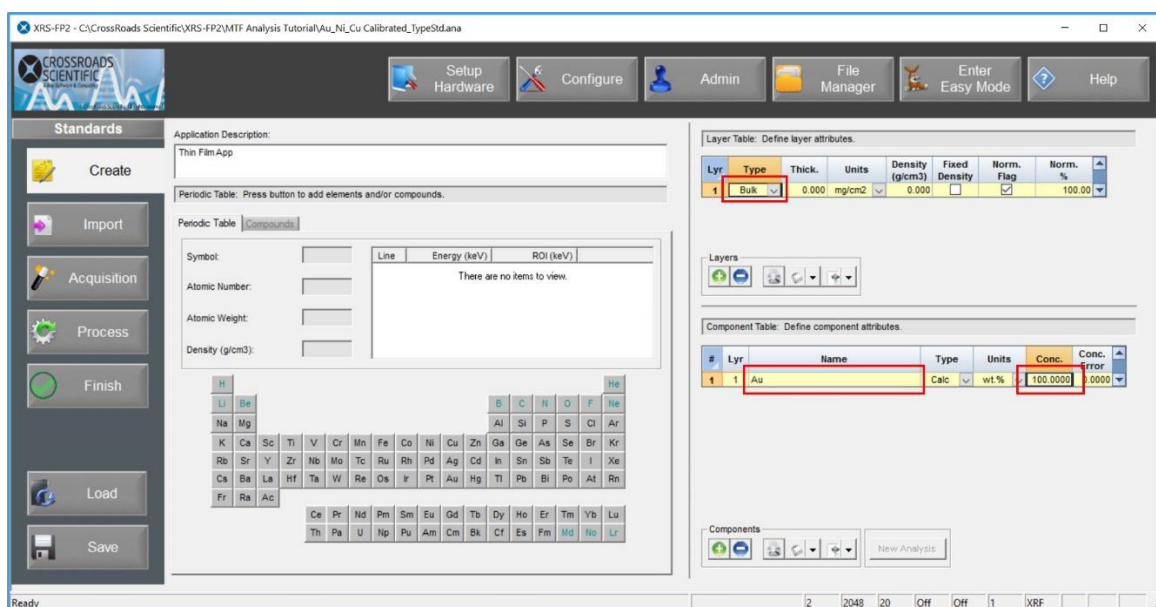
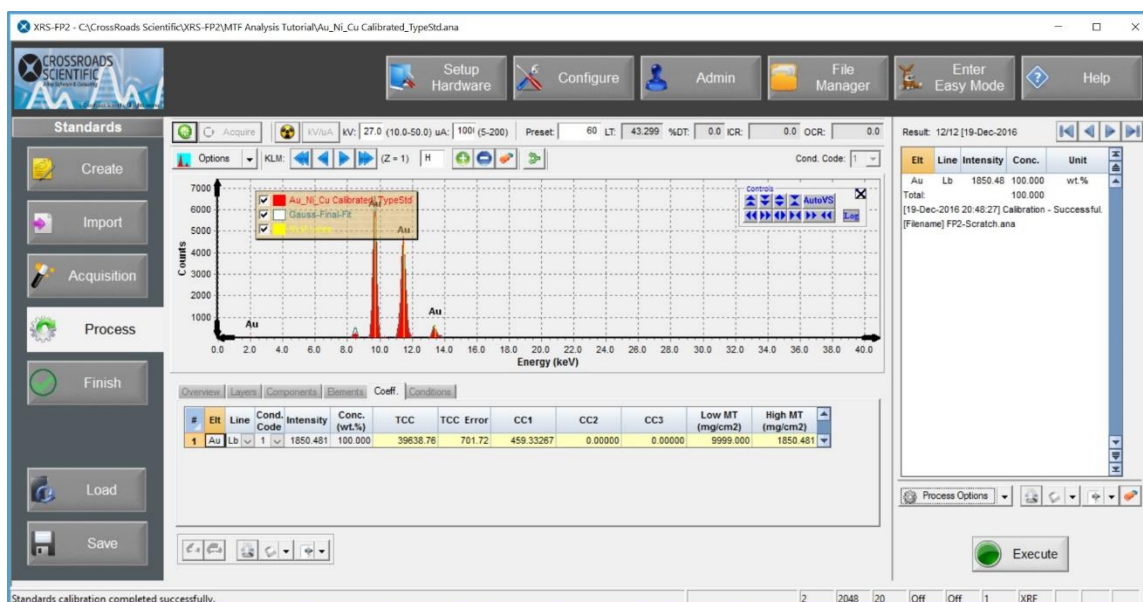

Figure 12. Standards Workflow – Create. Define the first pure element, bulk standard (i.e. bulk Au).
Figure 14. Standards Workflow – Process. Change the Au “Line” to L $\beta$ , then process the bulk Au spectrum and obtain a TCC value.
3. Next select the **Standards** button. In the **Create** view, remove two of the rows in both the Layer Table and the Component Table. Enter Au in the Component Table and set the concentration to 100%. Then set the “Type” to Bulk in the Layer Table. See Figure 12 below.
5. Then select the **Process** button. As with the type standard calibration, we will use the Au L $\beta$  line. Change the “Line” field of the Elements tab to display L $\beta$  (Fig. 12 below). In the R-hand panel select the **Execute** button to process the spectrum and obtain a TCC value for Au. See Figure 14 below.